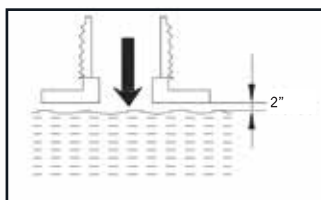

Fig. 8
- Refuel carefully to avoid overfilling or spilling fuel. To allow expansion of the fuel, don't fill above the bottom of the filler neck (see Fig. 8). There should be no fuel in the filler neck.